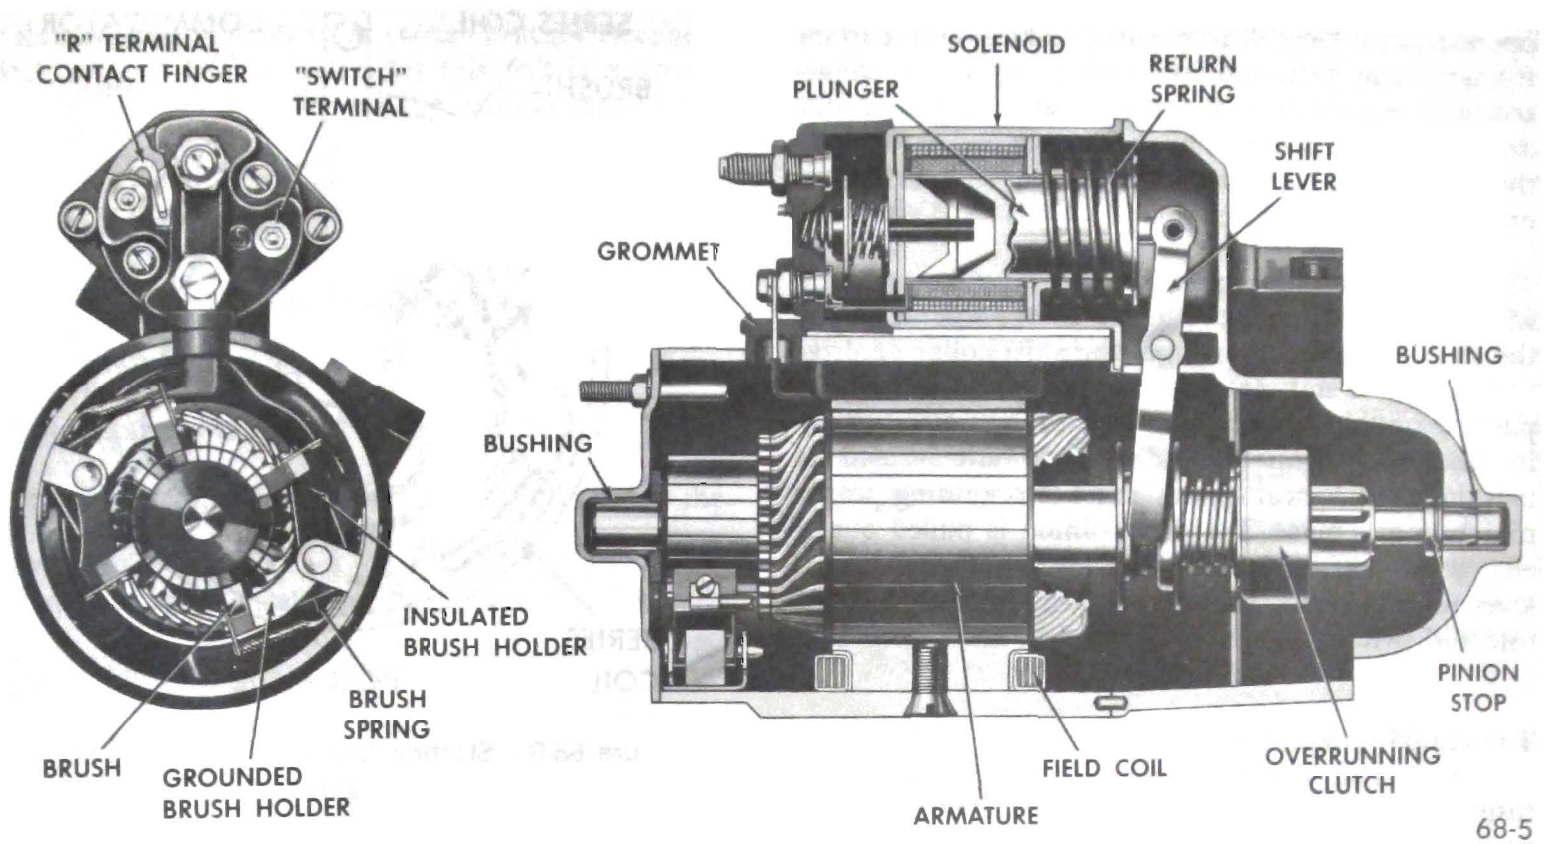

Figure 68-5 Starting Motor - 350 Engine
This prevents any possible gear clash. See Figure 68-5 or 6.
The closing of the solenoid switch contacts causes the motor to crank the engine and also cuts out the "pull-in" coil of the solenoid, the magnetic pull of the "hold-in" being sufficient to hold the pinion in mesh after the shifting has been performed. This reduces the current consumed by the solenoid while the cranking motor is operating. See Figure 68-5 or 6.
The cranking motor assembly consists of a motor, drive assembly, shift lever, and solenoid switch. See Figure 68-5 or 6.
The armature shaft is supported at both ends in graphite bronze bushings pressed into the commutator end frame and the drive housing. Neither of these bearings require lubrication except during assembly. See Figure 68-5 or 6.
The drive assembly pinion is moved into engagement with flywheel ring gear by action of the solenoid upon the shift lever, which engages the shift collar of drive assembly. The shift collar moves the drive assembly by pushing on the clutch spring, which serves as a cushion in case the pinion and gear teeth butt instead of meshing. The helical splines assist in obtaining proper pinion engagement. The drive pinion is pulled out of engagement, after engine starts, by action of the shift lever return spring. The shift lever is connected to the solenoid switch plunger by a roll pin. See Figure 68-5 or 6.
attraction to pull the solenoid plunger into the solenoid. The plunger actuates the shift lever and drive assembly and it also closes the solenoid switch contacts by pressing against a push rod upon which a contact disc is mounted between two coil springs. One spring serves as a cushion to insure firm contact of the disc with two stationary contacts. The other spring pushes the disc away from the stationary contacts to break the circuit when the solenoid is demagnetized after the engine starts. One stationary contact is connected to the battery positive cable and the other is connected to the motor windings through a connector or bus bar. See Figure 68-5 or 6.
4. Remove two screws holding solenoid to drive housing and remove solenoid. Remove small nut and insulating washer from the solenoid "S" terminal. Remove large nut and insulating washer from the solenoid motor terminal. See Figure 68-5 or 6. Then, remove two screws that attach switch cover to solenoid and remove cover for inspection of switch parts.